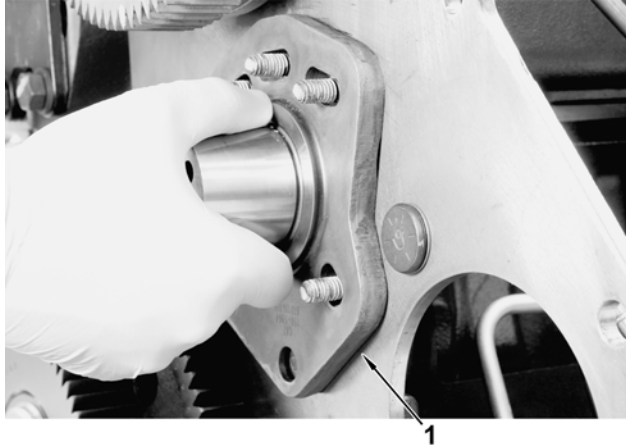

Figure 15 Adjustable Idler Gear Support
20. Reinstall adjustable idler gear support. Carefully work dowel pivot pin into pilot hole until idler support is flat against front plate. Make sure idler gear support is held flat against front plate as nuts / bolts are tightened. Torque nuts and bolt to 40 ft-lb (54 N·m) (Figure 15, Item 1).